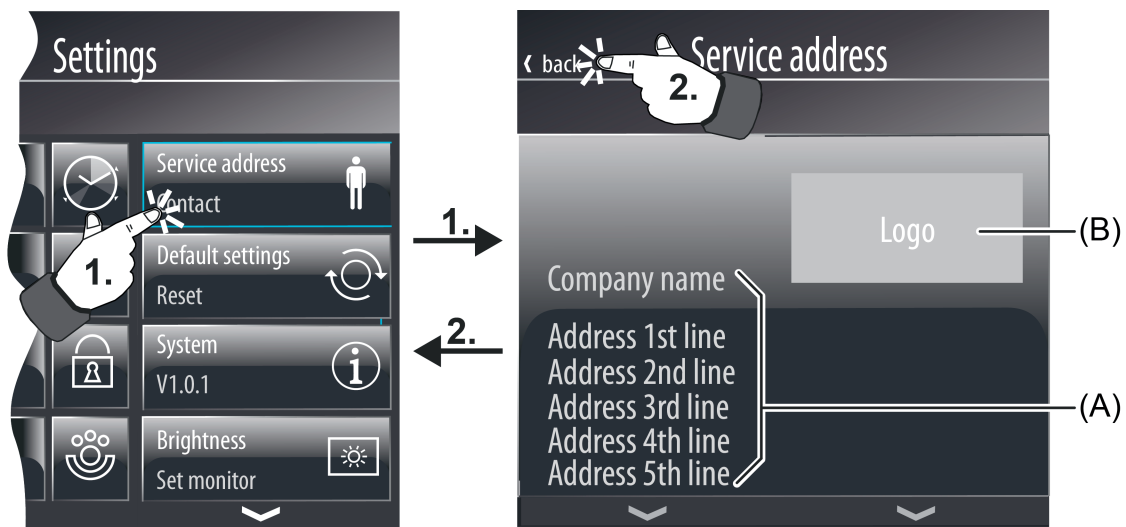

Figure 58: Example of displaying a service address
The service address is available in the submenu "Settings" (figure 58). The service address is shown on the display of the device by pressing the corresponding operating element (1.) in the submenu. The name of the operating element (e.g. "Service address") can be predefined in the configuration software. To return to the "Settings" menu, press the icon "< Back" (2.) on the page of the service address in the status line at the top edge of the screen. In case of any problems in the KNX system or with the device, users can contact the service address. The information displayed, e.g. a company name and address data in up to 5 lines (A), is predefined in the configuration software as a parameter in the path "Structure view -> Functions -> Settings -> Service address". These cannot be changed later directly on the device. Optionally, it is possible to display a company logo (B).